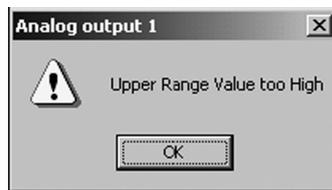

Fig.173
- ② If a mistake is discovered in settings on the converter side after the setting items are inputted and the "OK" button is clicked, then the error box shown in Fig. 173 will be displayed. Click the "OK" button and correct the mistaken input. Also note that if an input error is discovered on the converter's side, then a message will be displayed with error details, so use this as a guide when correcting the input.